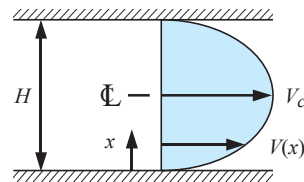

FIGURE P6.17
- 6.17 A flat channel of depth 1 m has a fully developed laminar flow of air at P_0 , T_0 with a velocity profile of: $\mathbf{V} = 4 \mathbf{V}_c \times (H - x)/H_2$, where \mathbf{V}_c is the velocity on the centerline and x is the distance across the channel, as shown in Fig. P6.17. Find the total mass flow rate and the average velocity both as functions of \mathbf{V}_c and H .